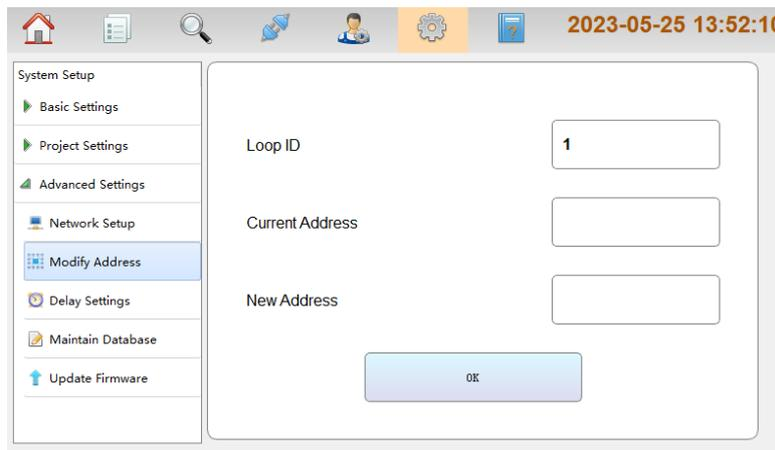

Fig. 4.27
- **Modify Address:** Users can modify device code based on the actual situation by clicking **Modify Address** in **Advanced Settings** menu as shown in Fig. 4.27.